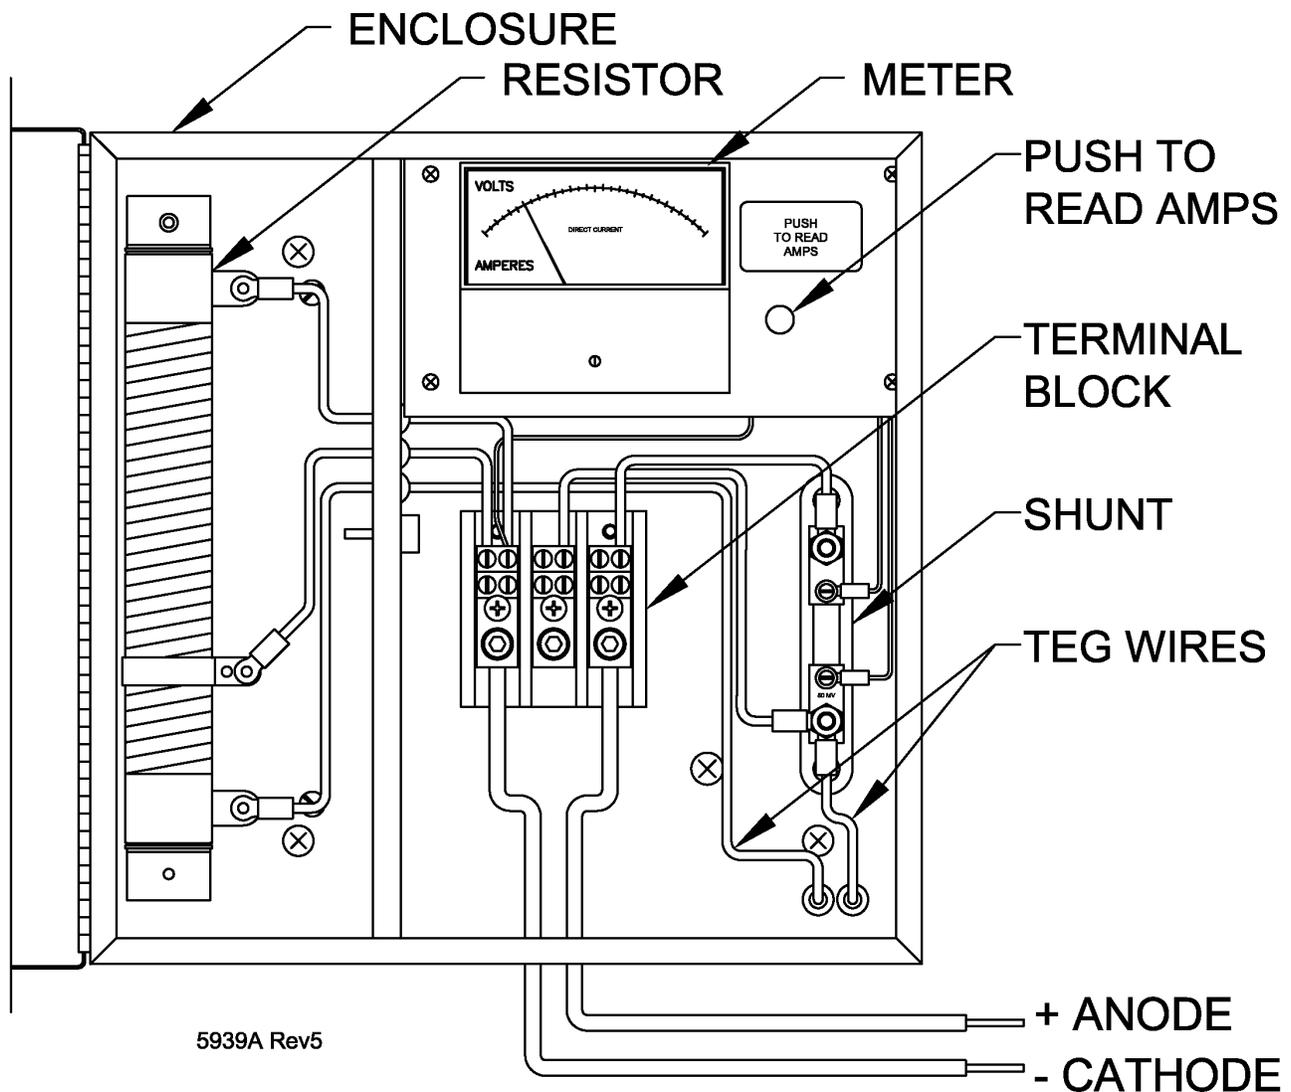

Figure 8 - CP Interface System Assembly
An optional cathodic protection interface system is available for use with the model 5220 TEG. It provides for adjustment and monitoring of power to a Cathodic Protection (CP) load. The anode and cathode cables enter the cabinet at the bottom and connect directly to a heavy-duty terminal block. A 0 to 1 Ω 300-watt variable resistor is provided for adjusting the output power applied to the CP system. The main parts of the CP interface system are shown in Figure 8.